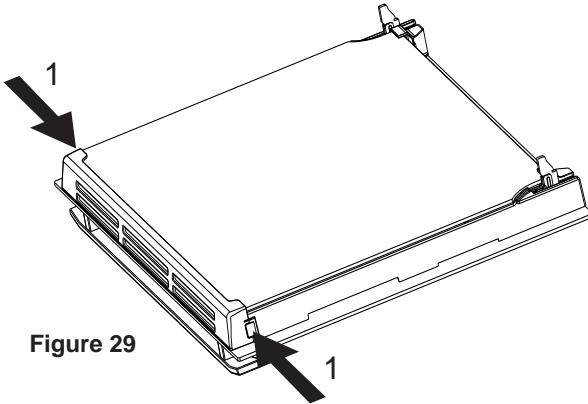

Figure 29
- Touch the glass retainer tabs in on both sides of the door and remove the glass retainer (figs. 29, 30).